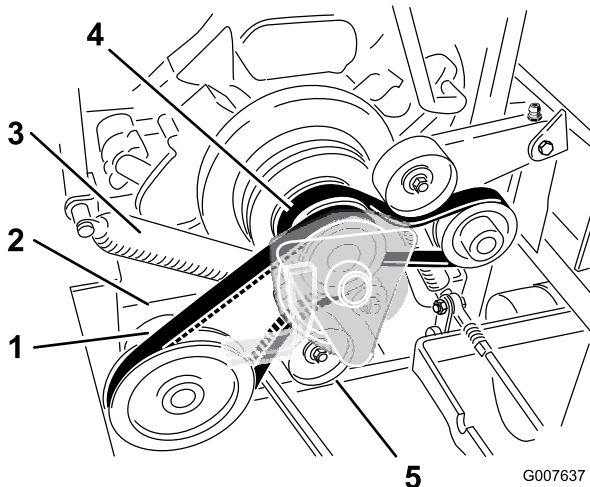

Figure 64
4. Remove the spring from the idler arm (Figure 64).
7. Install the PTO drive belt around the clutch pulley and the gearbox pulley (Figure 64).
9. Install the spring to the idler arm (Figure 64).